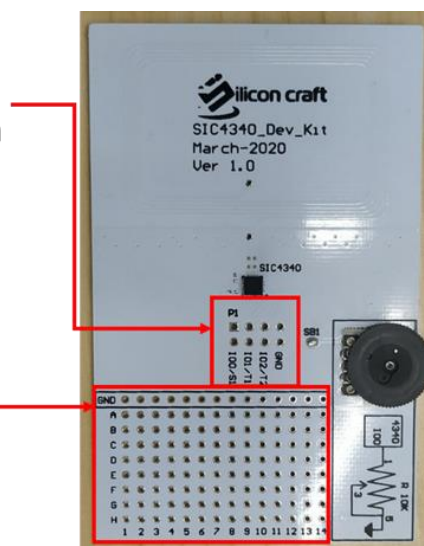

Figure 1: Detail of SIC4340 development kit board
2. SIC4340 Development kit board as Figure 1